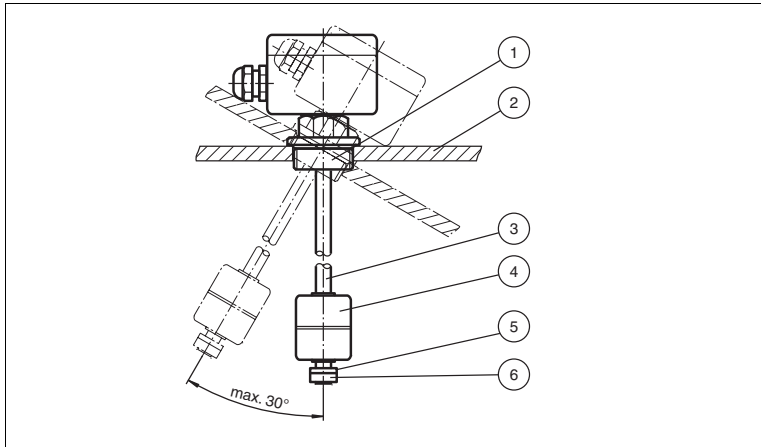

Figure 4.1 Principal device mounting
3. Install the device in the container from the outside. The device is installed in a vertical position. The angle of installation must not deviate from the vertical position by more than 30°, see Figure 4.1.
4. Screw in the device using the full length of the thread (1). Use suitable seals.